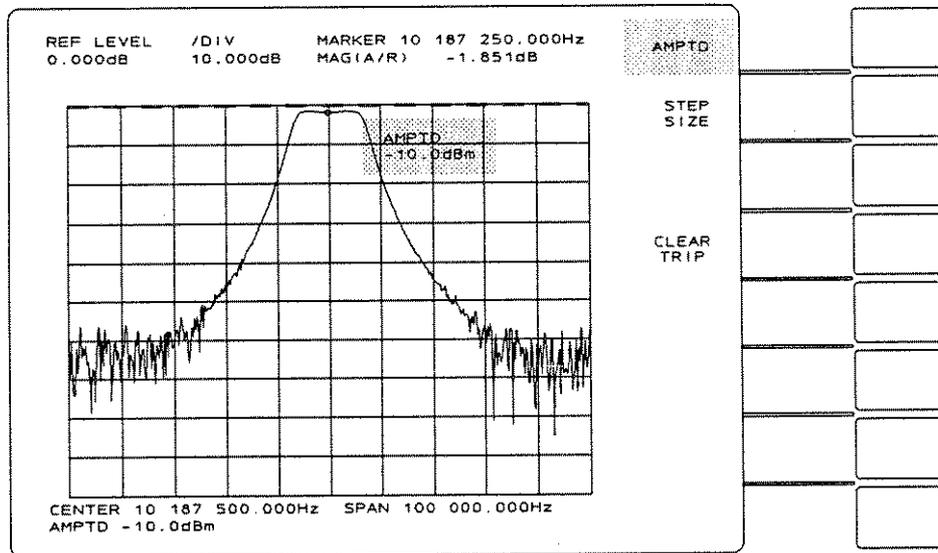
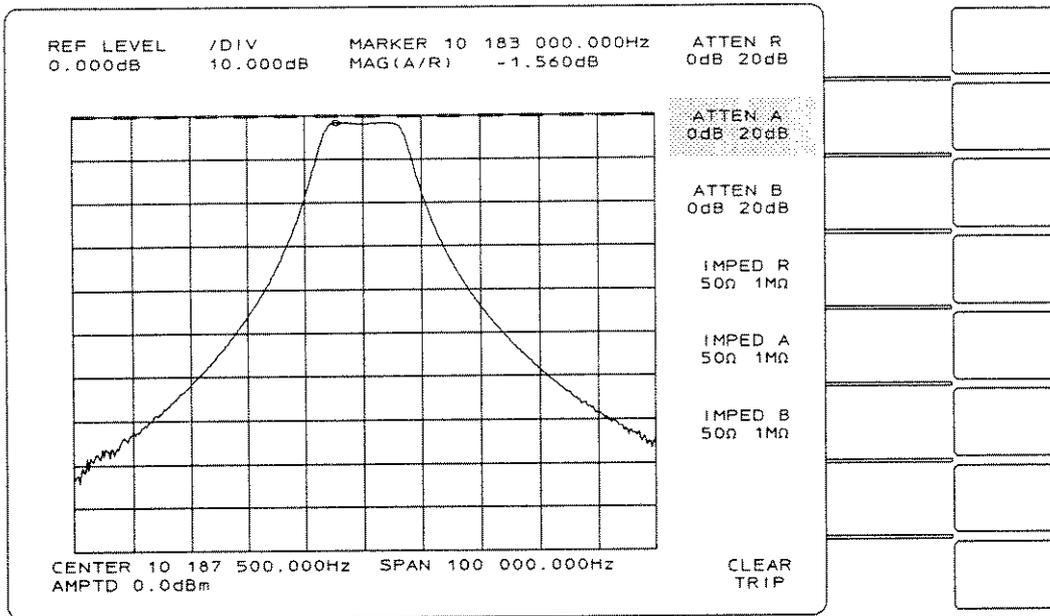

Figure 2-14. The Source Amplitude Menu
Figure 2-15. Optimizing Dynamic Range
7. The noise level of figure 2-14 will now be reduced by increasing the source amplitude and decreasing the attenuation applied to input A. Press **[AMPTD]** in the **SOURCE** section.
The noise-reduced trace is shown in figure 2-15. Compare it with figure 2-14.